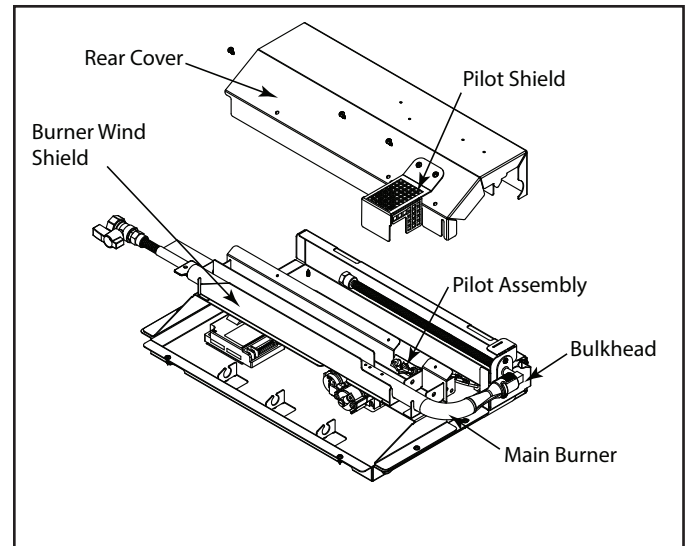

Figure 2
5. Remove Rear Cover by removing (3) screws securing cover to assembly. Lift Rear Cover and Pilot Shield straight up and set aside. See Figure 2.
7. Remove Burner Wind Shield. See Figure 2.
5. Replace Burner Wind Shield. See Figure 2.